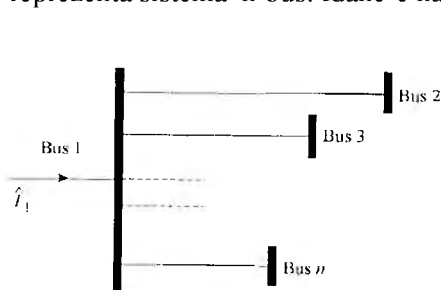
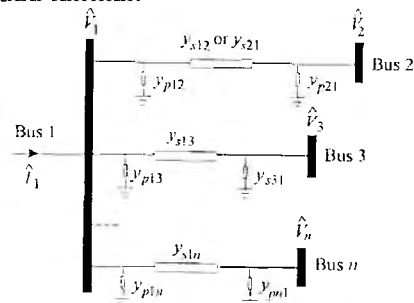

FIG. 5a Extending the analysis to an n-bus system.
FIG. 5b The π -model for the n-bus system.
Sistema two-bus bele fasiliu hodi hanaruk ba sistema boot. Konsidera sistema n-bus. Fig. 5a hatudu ligasoens hosi bus 1 hosi sistema idane'e ba busses sira seluk. Fig. 5b hatudu modelus liña tranzmisaun. Ekuasoen (5) liuhosi (16) nebe mak rezulta ba sistema two-bus bele hanaruk agora atu reprezenta sistema n-bus. Idane'e hatudu tuirmai.